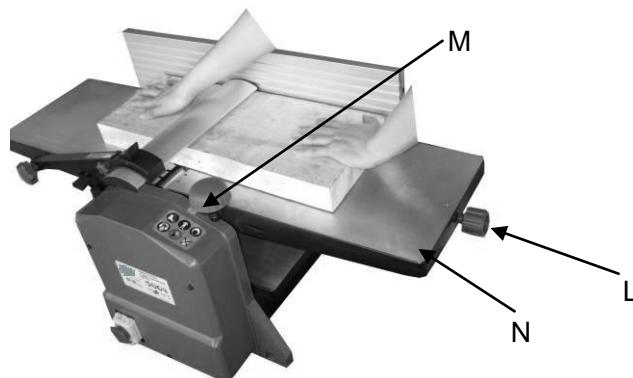

**Figure 8**
- Remove the blade guard K and place the dust chute E(See Figure 8).